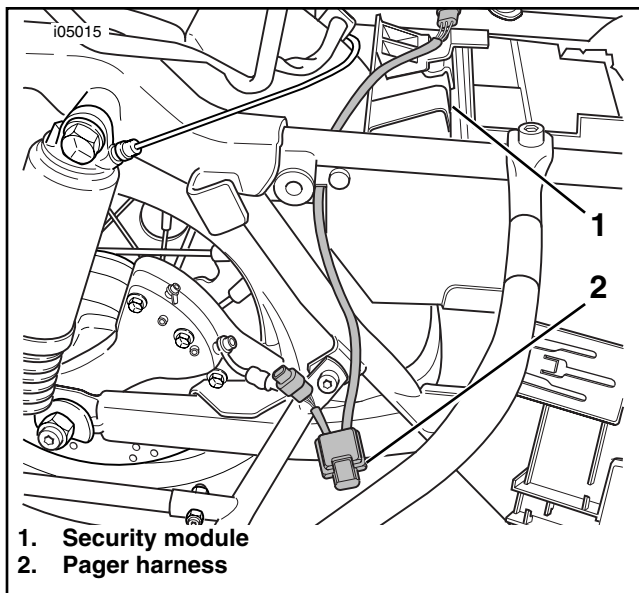

Figure 15. Route Pager Harness
9. See Figure 15. Working from below, route the long end of the pager harness with the single connector up through the gap between the rear fender and security module.